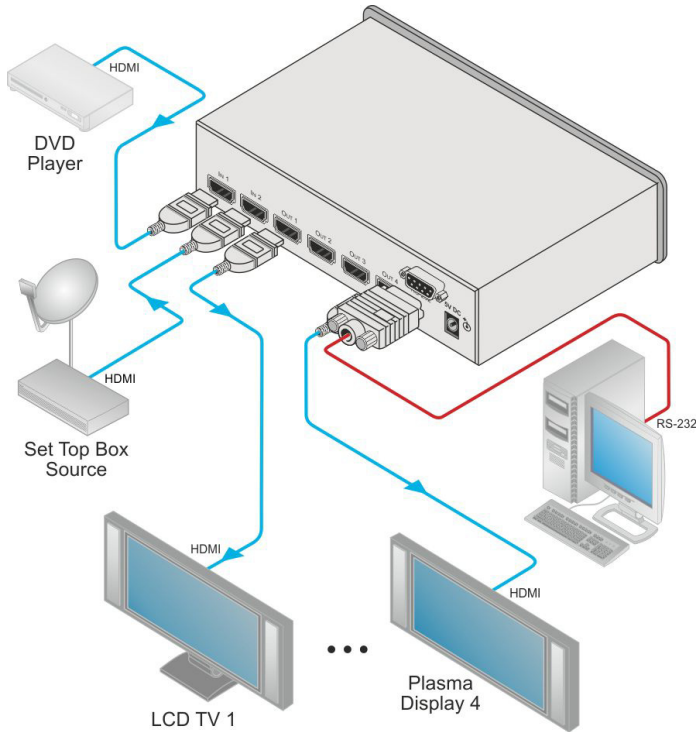

Figure 2: Connecting the VM-24HC 2 Input 1:4 HDMI Distributor
To connect¹ the VM-24HC as illustrated in the example in Figure 2:
4. Connect the power adapter to the device and to the mains electricity (not shown in Figure 2).
² Only connections to the first and last acceptors are shown in Figure 2